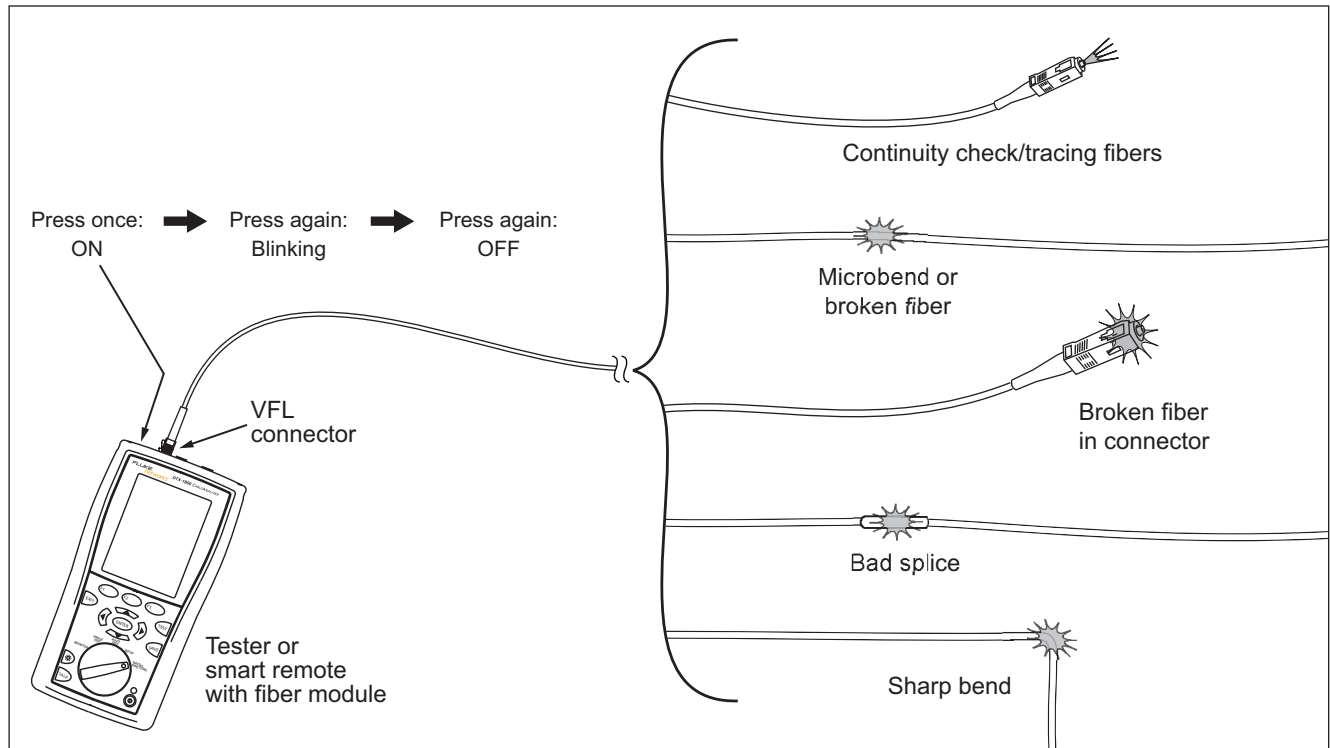

Figure 6-2. Using the Visual Fault Locator
- 3 Turn on the visual fault locator by pressing the button near the VFL connector, as shown in Figure 6-2. Press again to switch to flashing mode. Press again to turn off the locator.
- 4 Look for the glow to locate fibers or faults, as shown in Figure 6-2.